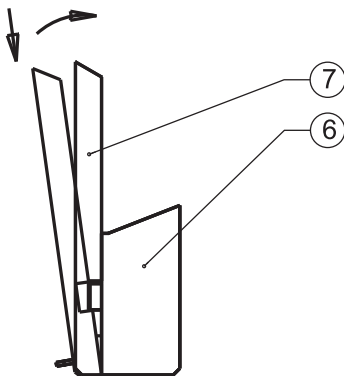

Fig. 8
2. Loosen the set screws (1) with the torx wrench so far (5 turns) until the profile knife (2) together with the profiled chip breaker (7) and the gib (6) can be removed completely from the knife seat.
4. Separate the profiled chip breaker (7) from the magnetic gib (6).
5. Assemble the new chip breaker (7) together with the magnetic gib (6). **Make sure that the flange of the gib (6) leans firmly into the corresponding notch of the chip breaker (s. fig. 8).**
6. Replace the functional unit of gib (6) and profiled chip breaker (7) properly into the knife seat and turn in the screws 2 turns. **Make sure that the end of the screws (1) comes into the corresponding ball cup of the gib (6).**